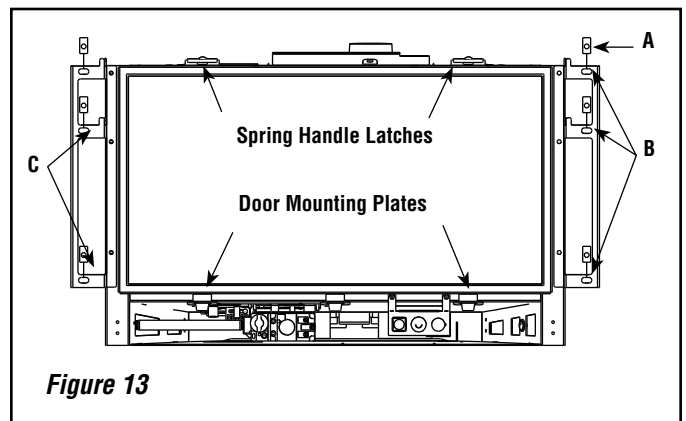

Figure 13
1. Remove the speed nuts (A in **Figure 13**) from the parts bag and install (with the flat surface forward) on the six holes in the surround brackets - three on each side of the insert (B in **Figure 13**). A flat bladed screwdriver may help in installing the nuts.
A number of different face finishes and styles are available for your appliance. The Arch face comes with a sight obstructor that must be installed prior to installing the surround panels and face. Instructions for installing the sight obstructor are included with the face. The faces come with hooked brackets. To install the face, hang the hooked brackets on the surround brackets (See C in **Figure 13**).